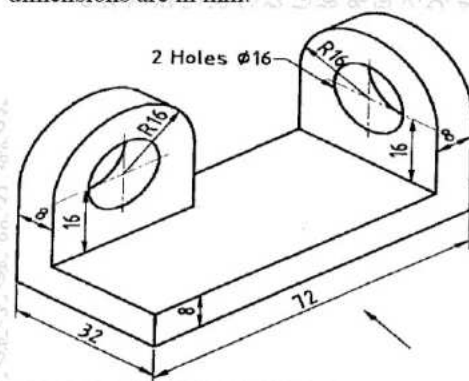

Figure: 2
- B) Draw the elevation, top view and side view of the object shown in figure 2. All dimensions are in mm.